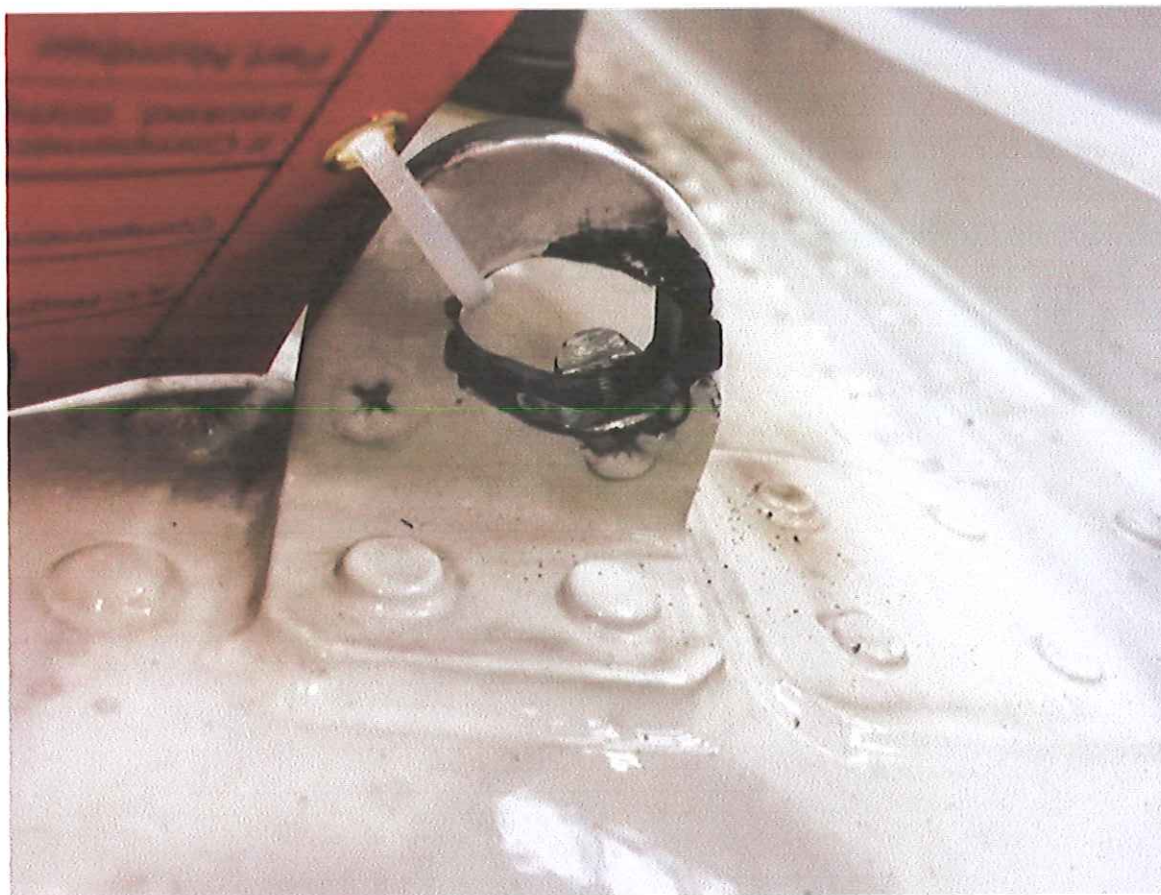

Figure 5 – Extreme Wear on Sliding Fairing Engagement Pin
19. Visually inspect all engagement (dagger) pins on the sliding fairing and their respective airframe bracket receptacles and wear blocks. Refer to Figure 5 for an extreme case of damage for an airframe receptacle. Figure 6 shows frame station locations and installation hardware for the replaceable wear blocks and the airframe bracket receptacles. Bushing part numbers and their acceptable alternative replacement parts are listed below.